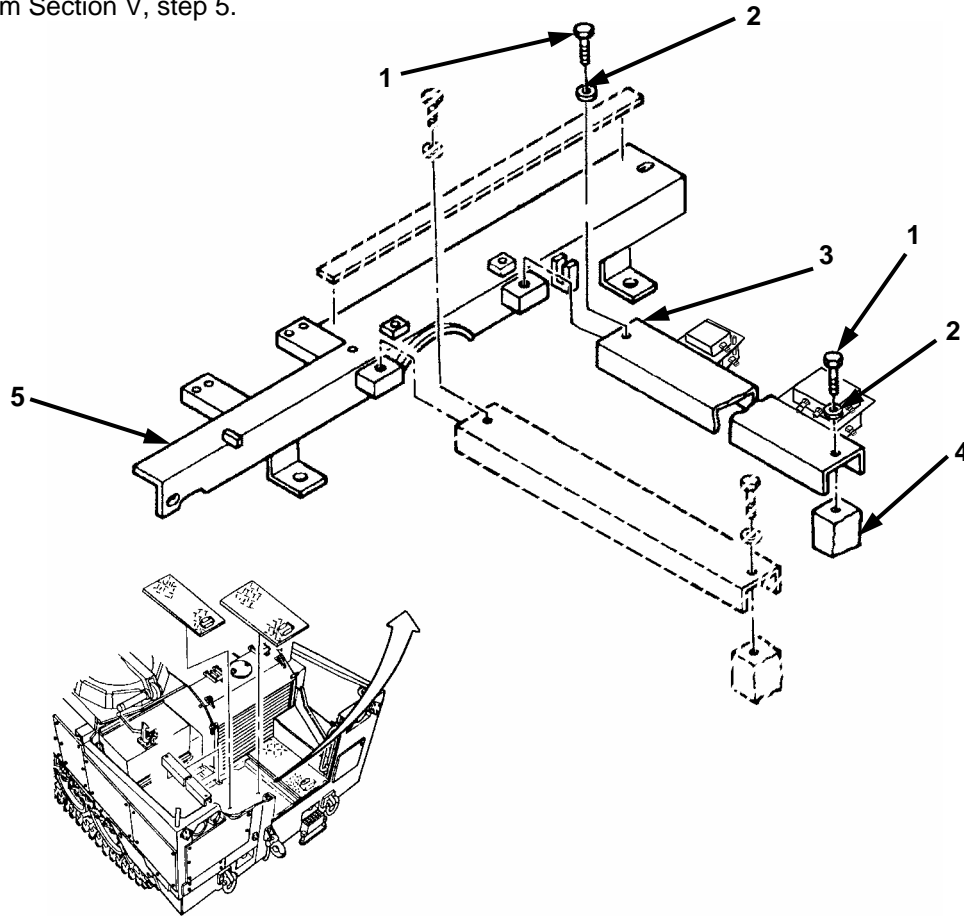

Figure 2-31. Floor Support.
3. Attach right side floor support (Figure 2-31, 3) to rear support (5) and hull using two bolts (1) and flat washers (2) (4) retained from Section V, step 5.